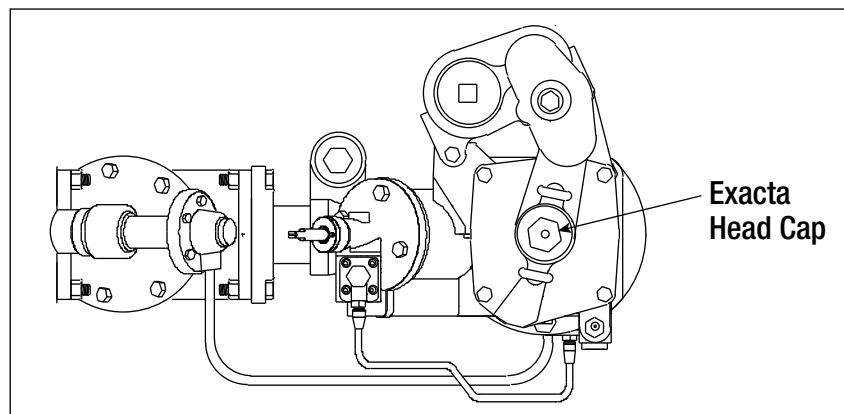

Figure 16. Extracta Head Cap
3. Remove Extracta Head cap (see Figure 16) to access the pigtail wiring compartment.
3. Remove and set aside the Extracta head cap (see Figure 16).